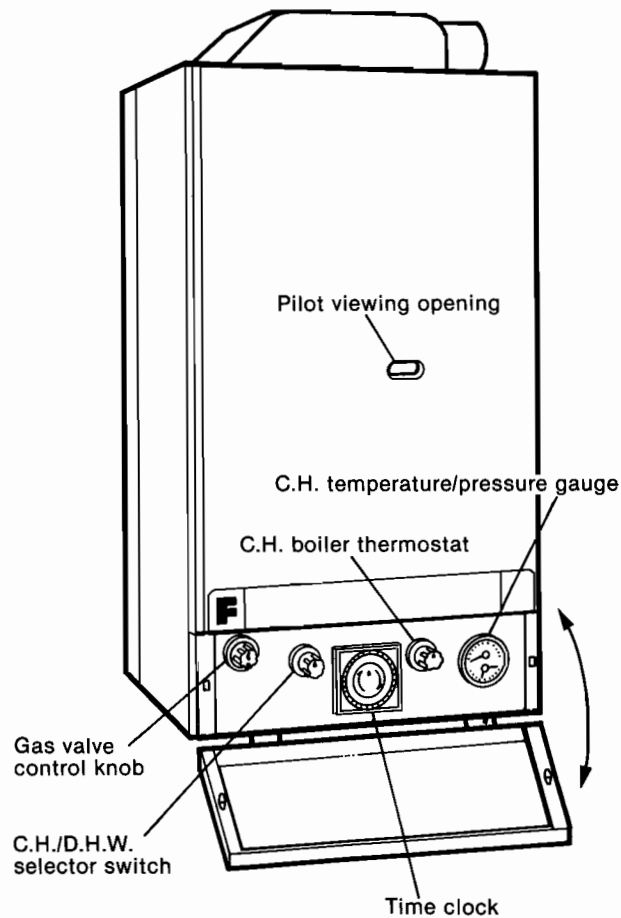

Fig. 21
8.5 To Light the Boiler (fig. 21).